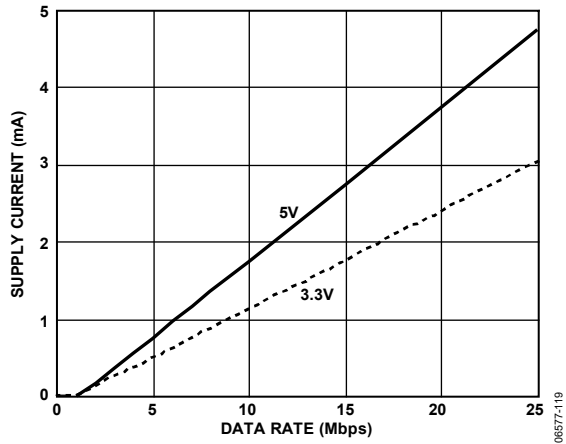
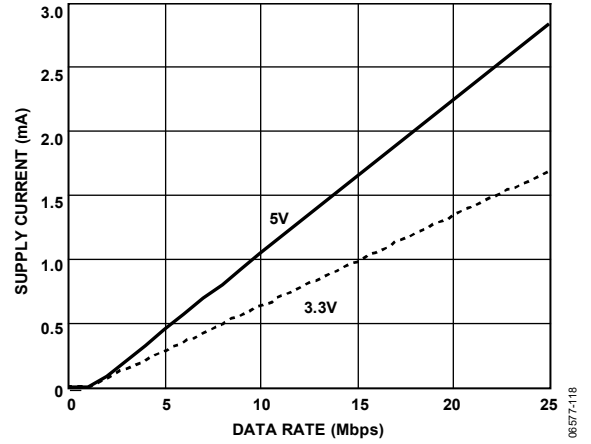

Figure 23. Typical IISO(D) Dynamic Supply Current per Input
Figure 24. Typical IISO(D) Dynamic Supply Current per Output (15 pF Output Load)
$I_{ISO (D)n}$  is the dynamic load current drawn from  $V_{ISO}$  by an input or output channel, as shown in Figure 23 and Figure 24.